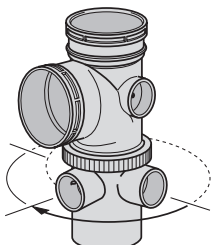

Fig.31b Rotating lower unit
*NOTE: Lower unit rotates through 90° only. Do not force unit past stops (Fig.31b)*